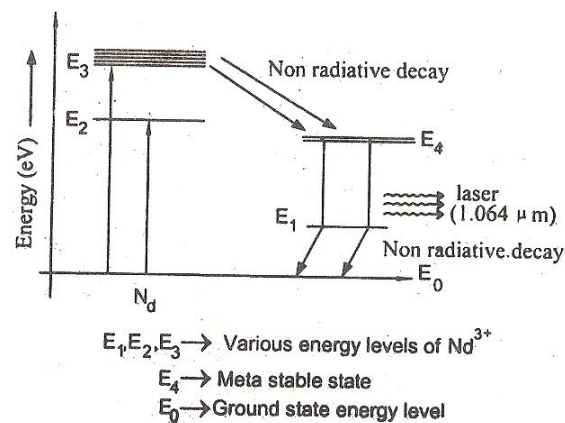

Fig. 3.9 Energy level of Nd-YAG Laser
2. The intense white light excites the Neodymium (Nd^{3+}) ions from the ground state to various energy levels above E_2 . Hence the atoms are raised to group of higher levels in E_3 as shown in Fig. 3.9 in the energy level diagram.